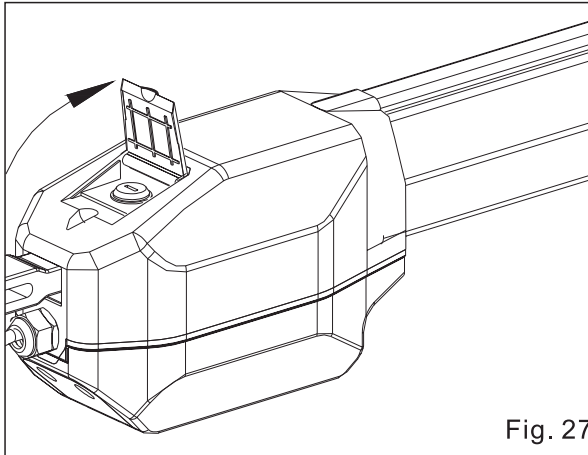

Fig. 27
- 1) Open the protective cap, Fig.27